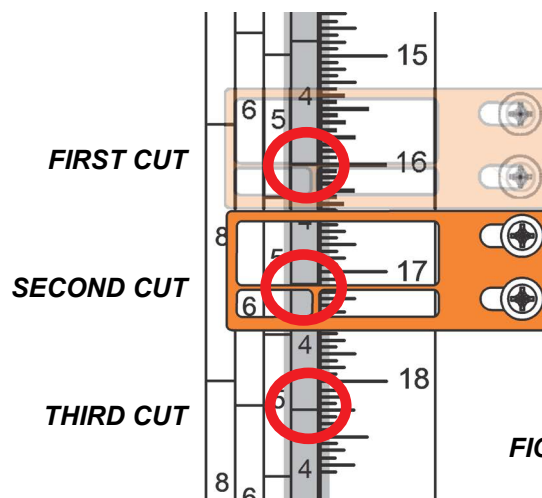

FIG. 5-7
2. Adjust the quarter scale so a 4/4 mark (highlighted gray in Fig. 5-7) is aligned with the line on the indicator.